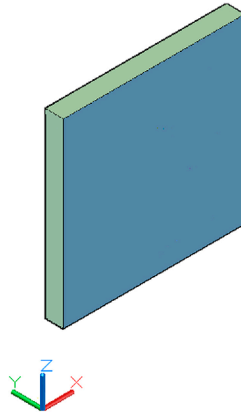

FIGURE 22.2 Plate 3D rotation around the X axis.
Step 5. Here, you can enter any numerical value, but let us stay with 90° for now. Type in 90 and press Enter. The plate rotates 90° around the X axis and stands on its end, as in Fig. 22.2.
In the same exact manner, practice rotating the plate around the other axes. From where it is right now in Fig. 22.2, a rotation around the Z axis makes it face the lower left side of the page. A rotation around the X axis makes it lay down flat again, and a rotation around the Y axis produces no visible results, aside from a shift in position, as the plate is a perfect 10" × 10" square.